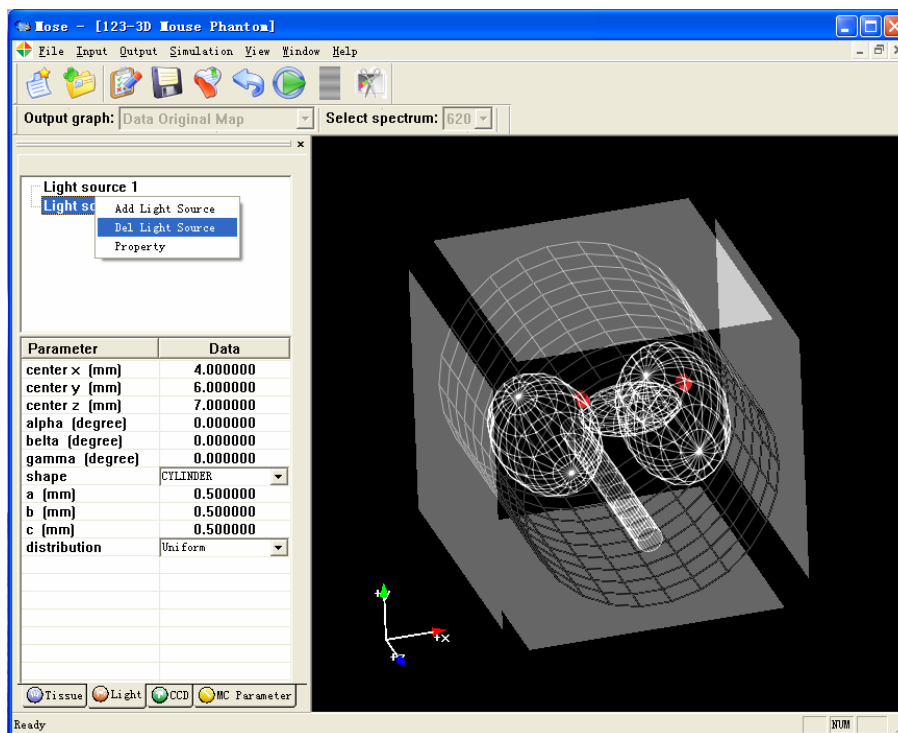
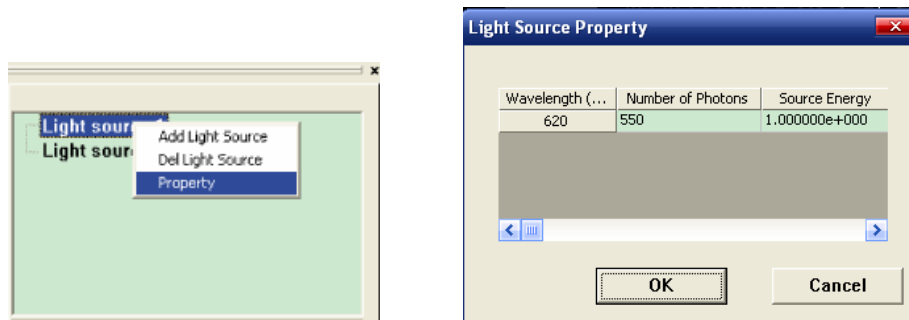

Figure 12-5. Delete a light source
Figure 12-6. Set the property of the light source
b. *Light* list: Light source is shown in the upper list, corresponding information including position and shape parameters which can be modified in the second list. Right click a certain light source, we can add or delete a light source, or set the photon energy distributing and the number of photons in each spectrum band (see Figure 12-4, Figure 12-5, and Figure 12-6).